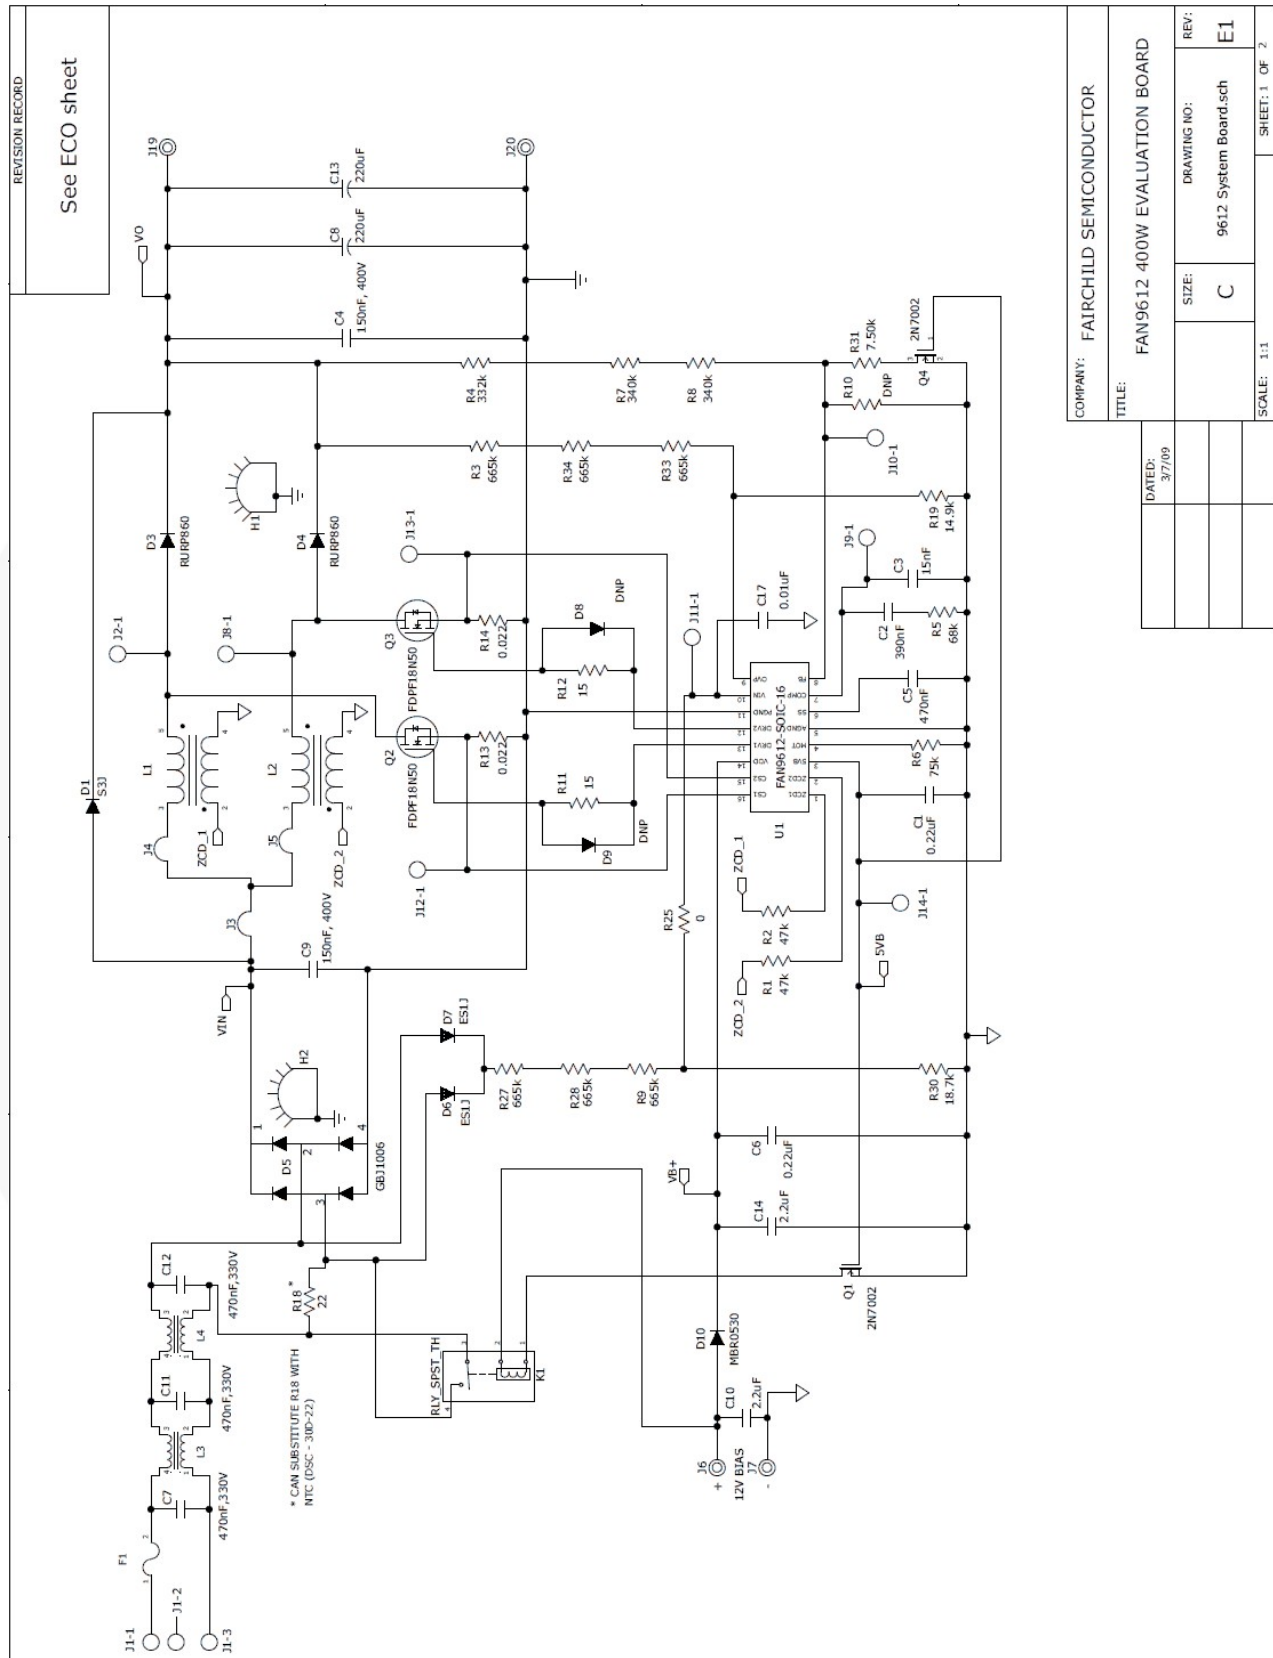

Figure 2. 400W Evaluation Board Schematic
5. Q4 and D11 in the Figure 2 allow the evaluation board to run at low V_{DD} voltage, down to 8.5V. When line voltage is applied with low V_{DD} voltage (8.5~12V), Q4 is turned off initially and V_{DD} is charged up to V_{DD} turn-on threshold voltage through diode D11, which allows the converter to startup with low V_{DD} voltage. Once the controller starts up, Q4 is turned on and D11 is reverse biased.